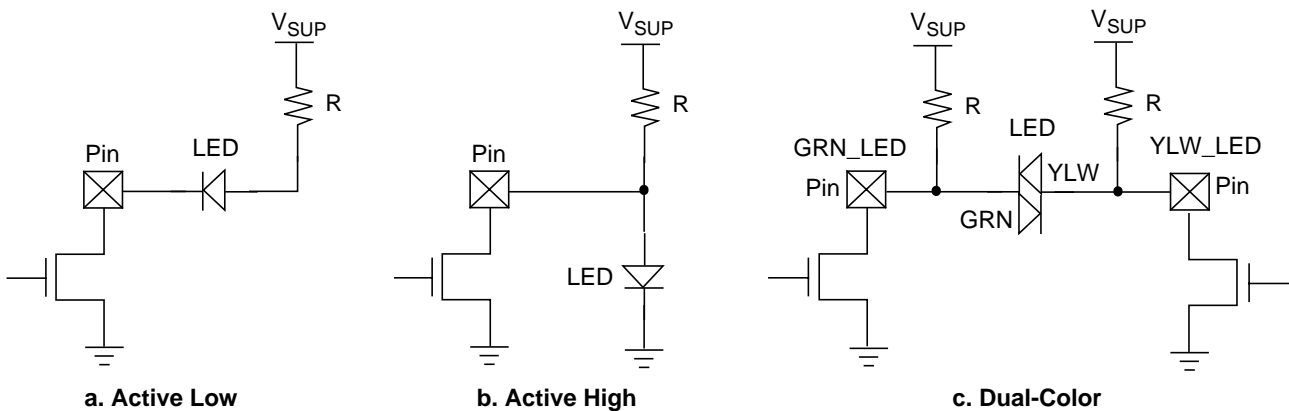

Figure 16. LED Connection Configurations
The LEDs can be connected to PC87372 using one of the configurations shown in Figure 16.
The Standard LED control is the default LED control option. Two regular LEDs must be connected to the GRN\_LED and the YLW\_LED pins, according to configuration “b” (Active High) in Figure 16.
Table 31 on page 78 shows the states of the GRN\_LED and YLW\_LED pins. The LEDs are connected according to configuration “b” (see Figure 16); therefore, a LED is on when the pin is floated and off when the pin is at low level (0).
In the Advanced LED control option, one dual-color LED or two regular LEDs can be connected to the GRN\_LED and the YLW\_LED pins, using any of the configurations shown in Figure 16. LEDCFG and LEDPOL bits in ALEDCTL register (at offset 02h; see Section 6.3.4 on page 80) must be set to reflect the connection configuration of the LEDs.
LEDCFG bit selects either configurations “a” and “b” (two regular LEDs are connected between each pin and ground or  $V_{SUPP}$ ) or configuration “c” (one dual-color LED is connected between the GRN\_LED and YLW\_LED pins). LEDPOL bit selects the polarity of the On state at both pins (GRN\_LED and YLW\_LED). Table 29, shows the value of LEDCFG and LEDPOL bits for each LED connection configuration in Figure 16, and also the state of the GRN\_LED and YLW\_LED pins for which the LED(s) are On.
| LEDCFG | LEDPOL | GRN_LED   | YLW_LED   | Connection (See Figure 16)       |